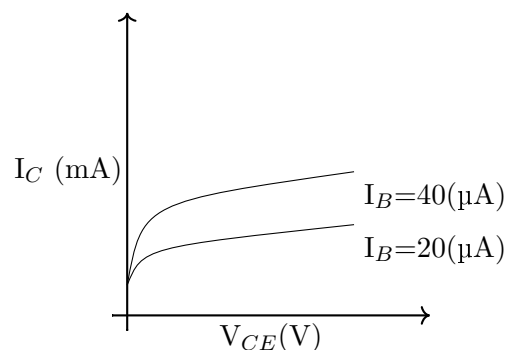

Figure 10.6: Output characteristics
4. Plot graph (e.g. as shown in figure 10.6) of  $I_C$  (along Y-axis) against  $V_{CE}$  (along X-axis) for different values of  $I_B$ .